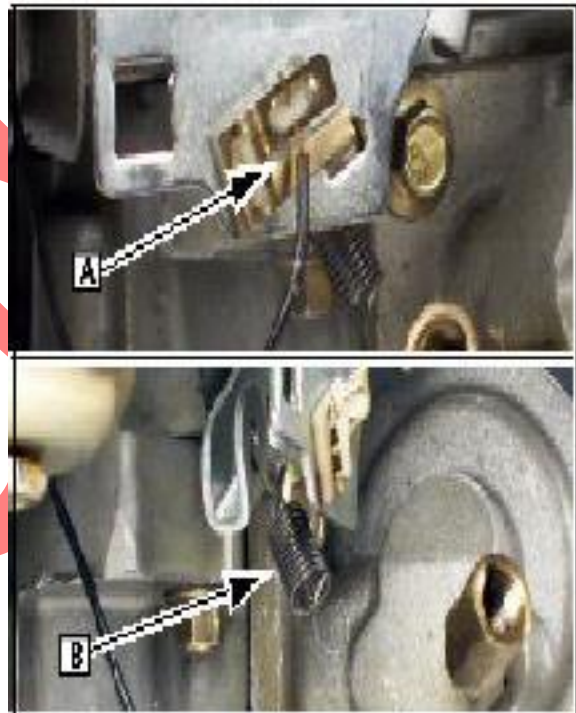

Fig. 11
Disconnect stop switch wire (A) and return spring ([B] Fig. 11) from governor lever.
Reinstall stop switch wire and governor lever return spring (Refer to Fig. 11).